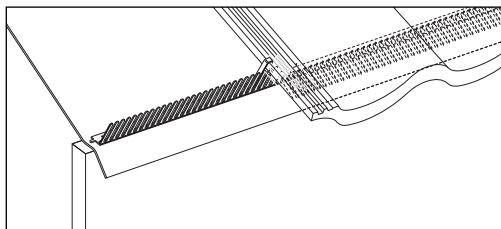

Fig 13 – Eave clip and comb fillers for deep profile tiles (> 16mm gap)
- 8 For deep profile tiles, nail comb filler to top of fascia board (Fig 13).